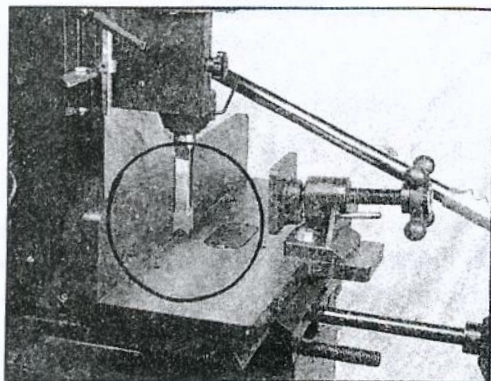

Fig.8
5. Insert the hollow square chisel into the chisel head and push up until it butts against the bush, then hold the hollow square chisel up, but do not tighten. Set the hollow square chisel square to the table fence, with lower clearance slots to the side, then tighten set screw through bush firmly as shown in Fig.8.